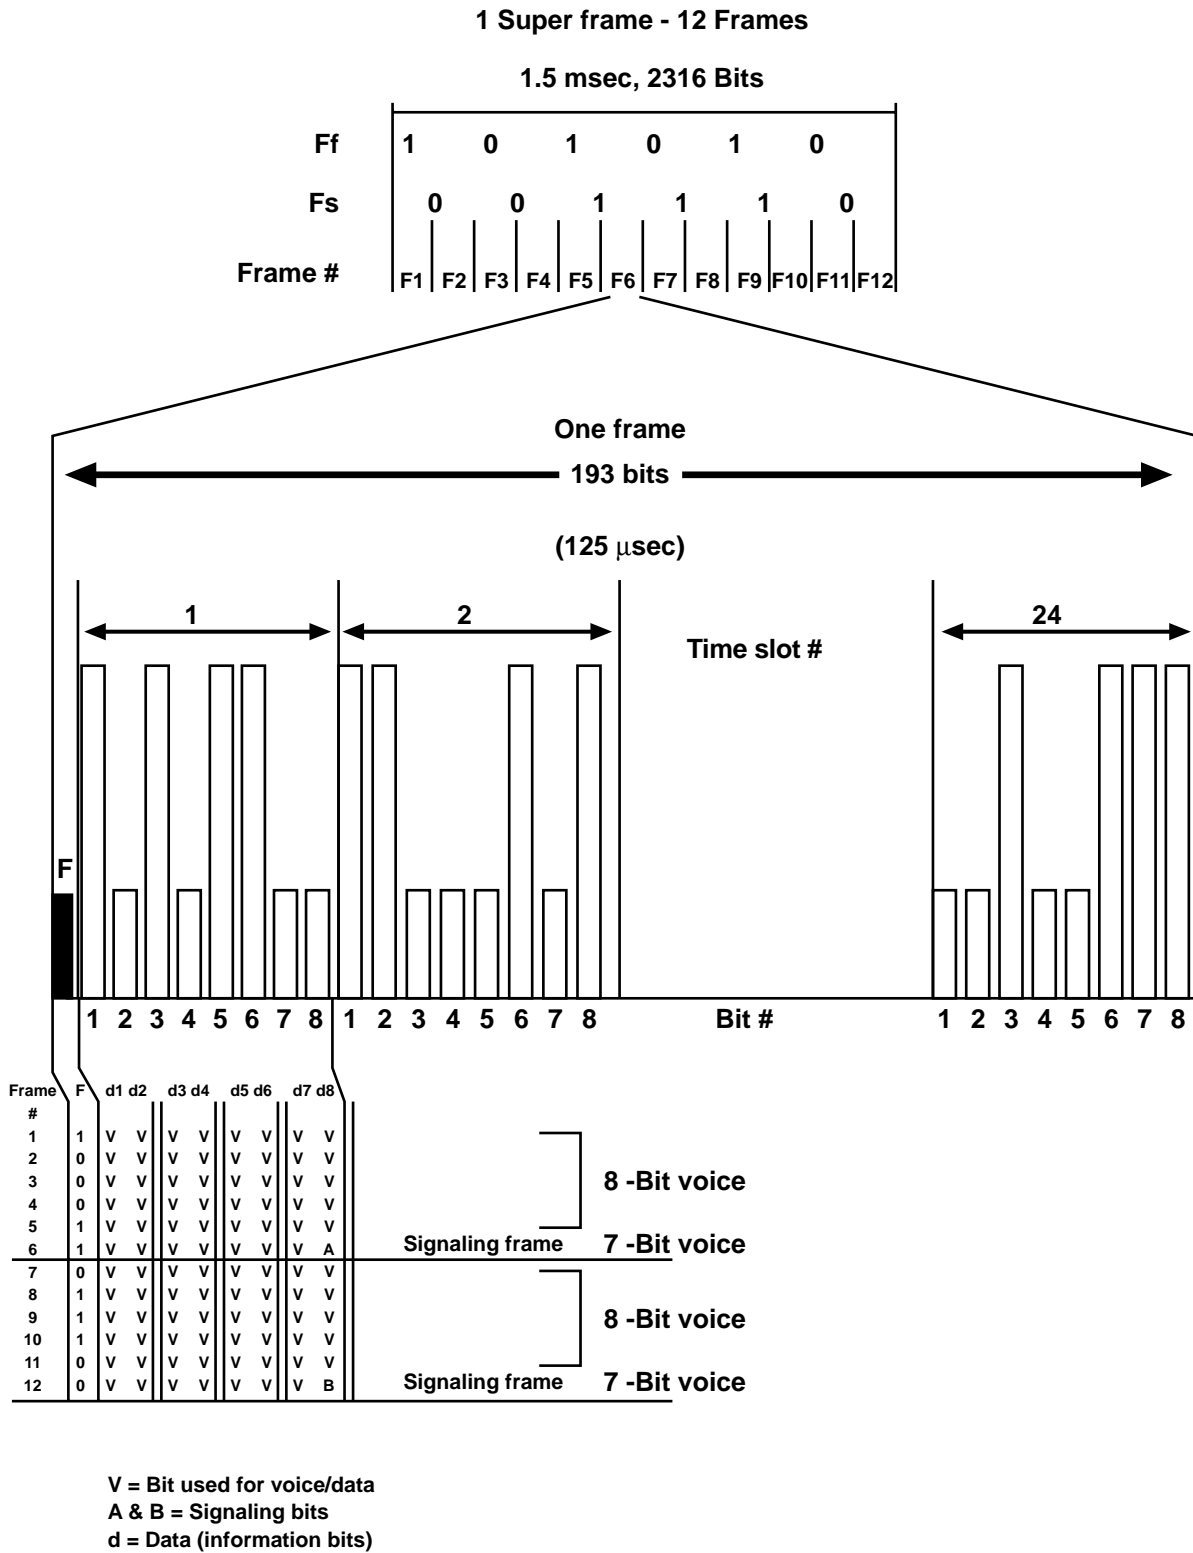

Fig. 2-3. D4 Frame (Superframe Format).
Data can be inserted in seven (7) bits out of the available 8 of a DS0 for a root rate of 56 Kbps, or all 8 bits can be used for a root rate of 64 Kbps. See **Fig. 2-3** for how bits fit into the frames. The T1 line coding must be B8ZS (bipolar eight zero substitution) to transmit 64 Kbps of data.